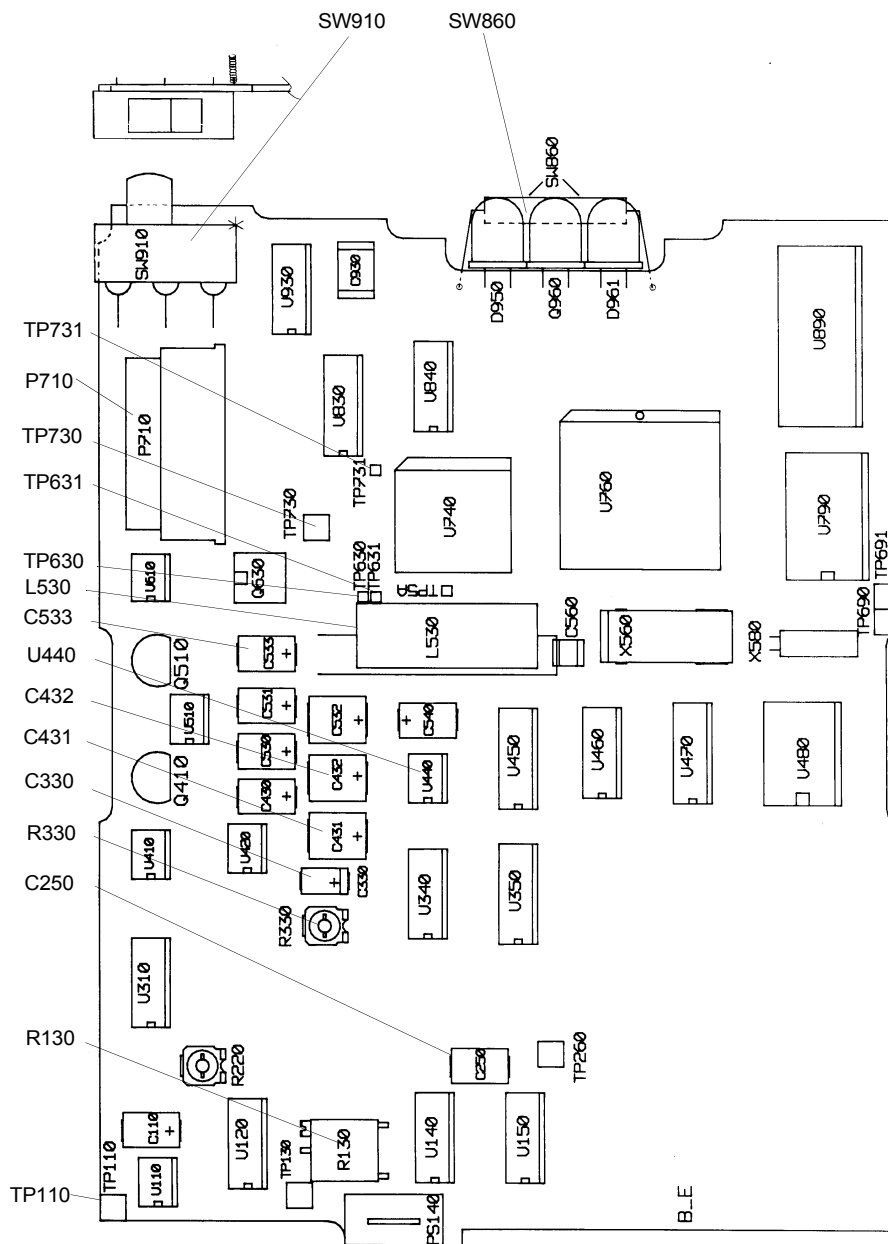

Figure 4-5: Main board components for P/N 670-0303-10 (and earlier versions)
Refer to *Figure 4-5* to identify test points and other components when conducting calibration and verification procedures for PCBAs P/N 670-0303-10 (and earlier versions).
- 9 For main board assemblies P/N 670-0303-10 (and earlier versions) set the ADR reference voltage, measured at +C330, to 3.672 V  $\pm$  0.001 V by adjusting point R330. To locate this point, refer to *Figure 4-5* on page 4-9.